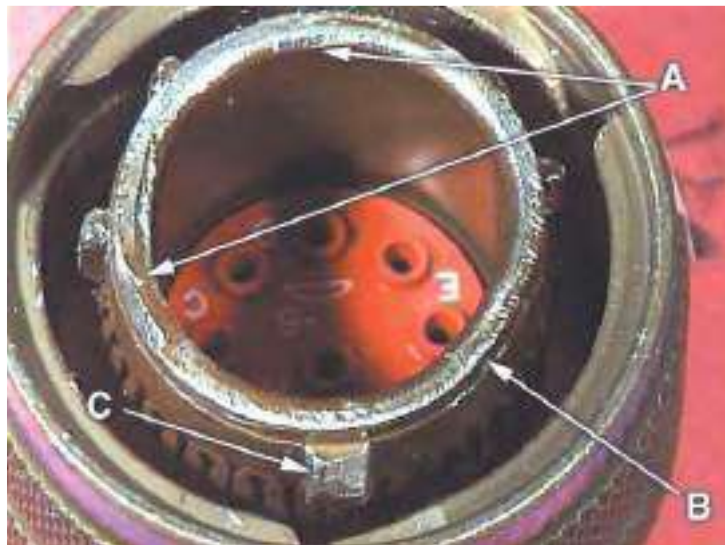

Figure 3
- (1) Connector shell or body is cracked, fractured or otherwise damaged.
- (2) Connector lock ring is cracked, fractured or otherwise damaged.
- (3) Damage such as scratches or burrs (see A in Figure 3) that exposes basis metal.
- (4) Deformed or distorted inner or outer ring (out-of-round condition) (see B in Figure 3).
- (5) Key width or height has been reduced (see C in Figure 3).